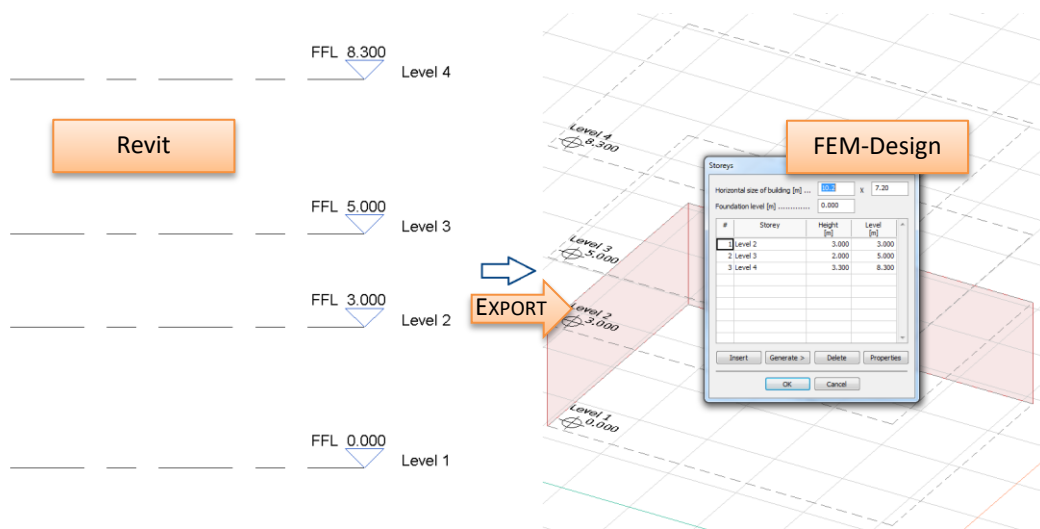

Figure III-22
- Size of the *Storey* in FEM-Design is calculated based on the placement of most outer elements in the Revit model and included as a *Horizontal size of building* in the *Storey* dialog, as shown in Figure III-22.